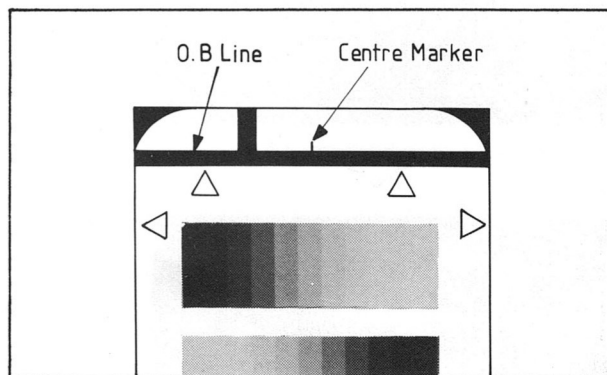

Fig 7.22
- (1) Connect the 33K Ω R jumper across resistor R33 on the Def and Power PCB (CA 4501A) in order to lower the vertical centre of the vidicon raster
- (2) Use the zoom lens to take a close-up shot of the grey-scale pattern (with frame marks)
- (3) Adjust R05 **H CENT** on the Def and Power PCB (CA 4501A) until the centre marker is positioned at the centre of the TV monitor as shown in Figure 7.22